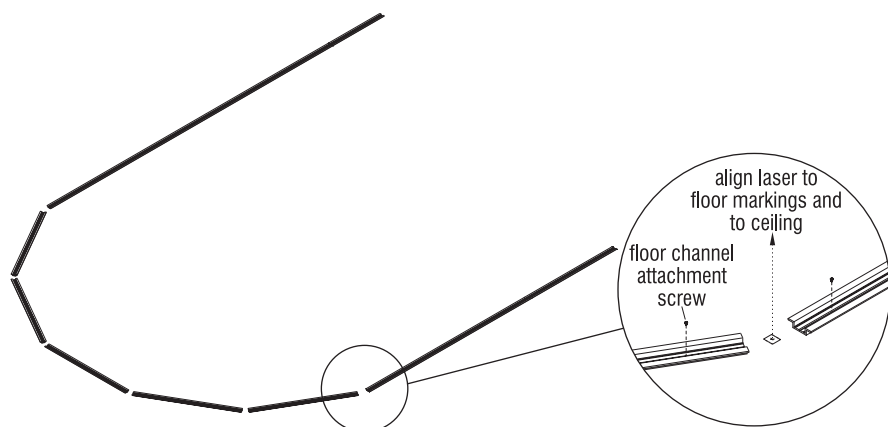

Figure 7 - Floor Channel Positioning
13. Align the floor channel with the laser alignment mark (Figure 7).
14. Pre-drill attachment screw holes by determined distance on space-planning layout. Use supplied screws that are specified per space-planning layout and attach floor channel to the surface (Figure 7).
15. Repeat steps one and two for installing additional floor channels, directly below ceiling rails (Figure 7). Standard floor channel installation steps can be found on page 16, if additional information is needed.